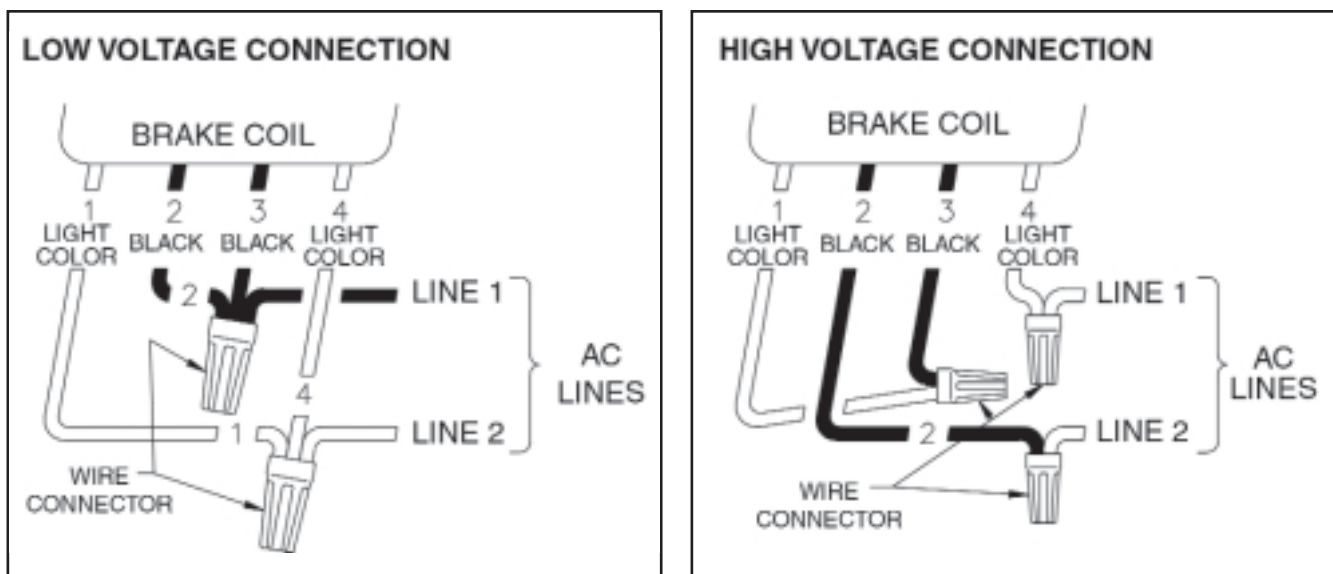

Figure 2
5. Place coil lead wires around mounting bracket (15C) to the same side as the wire outlet position. Connect coil lead wires per "Connection of Coil Leads" and Fig. 2.
9. Replace cover (20) and cover locknuts (22). Tighten just enough to hold the cover in place. Reconnect power.
After securing the brake to the motor, connect coil leads for proper voltage per wiring diagram (Fig. 2 shows dual voltage coil). Incorrect connection can result in brake failure.